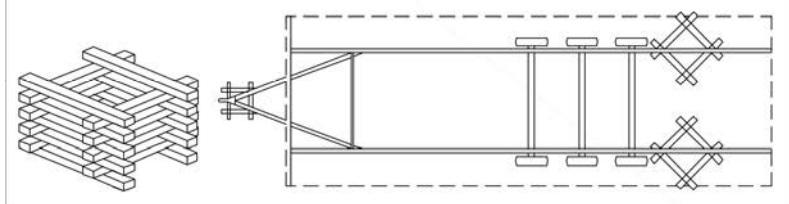

Figure 20. Stack 4" x 6" by 5' long timbers as shown to form safety timbers. Place safety timbers under home behind axle area and under hitch.
- Make sure adequate safety cribbing (Figure 20) is in place whenever the home is placed on jacks.
- Install cribbing.** Install safety cribbing (Figure 20).
**Utilize proper cribbing.** Manufactured homes weigh several tons. No one should be under the home (whether it is moving or stationary) unless proper cribbing is in place (Figure 20). Failure to utilize proper cribbing may result in serious injury or death.